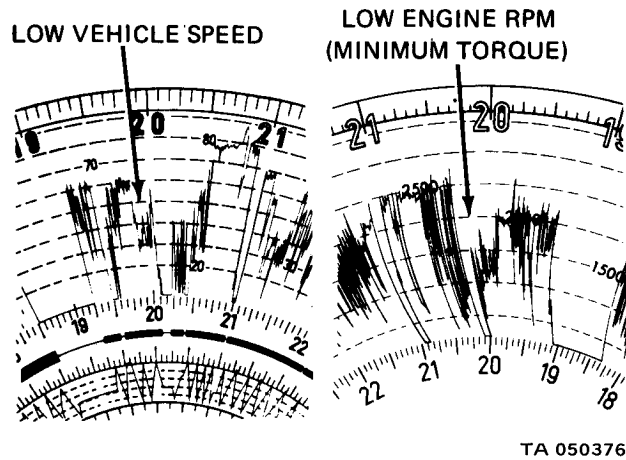

Figure 20-11. Driving Uphill in Wrong Gear
(6) Driving uphill in wrong gear. This speed field on the chart will not tell you which gear the truck was driven during this time period. However, the rpm field (fig. 20-11) will show that during this-time period, the engine was overloaded at low rpm. This kind of driving will cause major engine damage, and the driver of the truck must be told of this problem. Driving uphill in the correct gear will show in the rpm field maximum torque area (fig. 20-12).